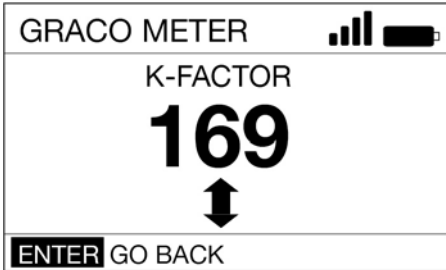

FIG. 26
8. Note the current K-FACTOR is displayed. In the example shown in FIG. 26 the K-FACTOR is 169.